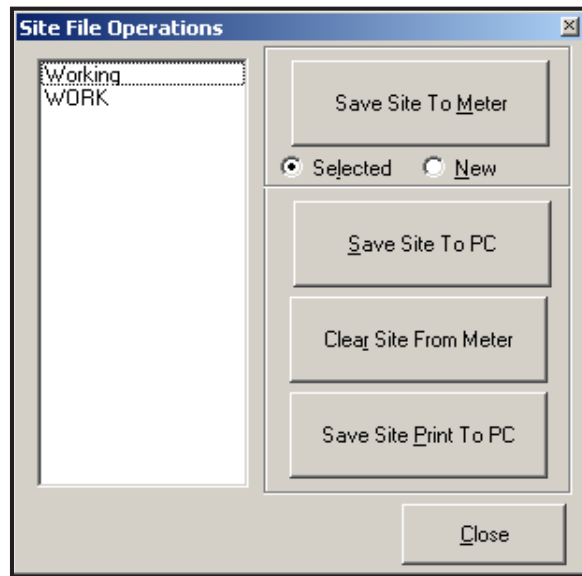

Figure 51: Site File Operations Window
- Click on the [Site Files] button. The *Site File Operations* window, as shown in *Figure 51* below, opens.
1. Highlight the desired site in the left pane. (See *Figure 51 on page 126*.)